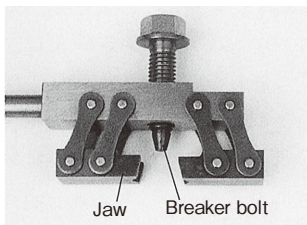

Fig. 10 Part nomenclature
- 1) With the side of the chain with the ground pins (or cotter pins) facing up, clamp the roller between the two jaws and support the roller chain. Ensure the tip of the upper break pin is centered over the roller chain pin and secure the roller chain. (See Fig.10 & 11.)